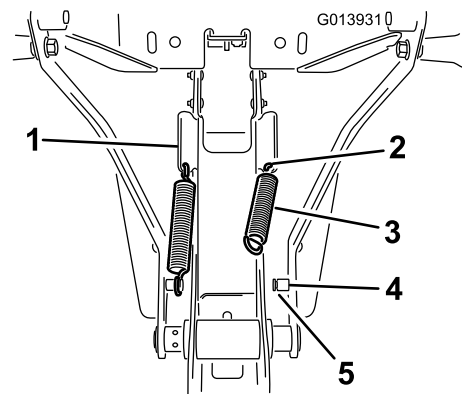

Figure 13
1. Install the spring to the hole in the lower end of the angled tab on the side of the frame assembly (Figure 13).
opposing end reaches the protruding post on the cradle arm (Figure 13).
3. Make sure the spring end is seated properly in the groove in the post (Figure 13).